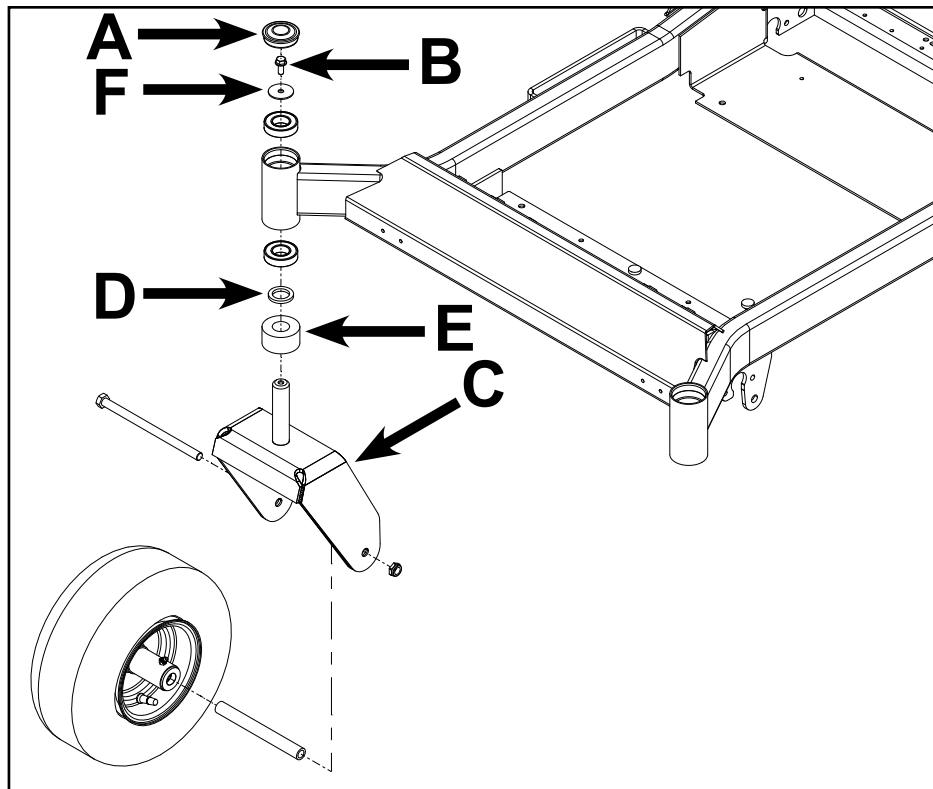

Fig. 008
2. Install spacer (E) and thrust washer (D) onto the caster fork shaft.
4. Install washer (F).
5. Install fastener (B) and torque to specification -17 ft-lbs. (23 Nm).
6. Install the dust cap (A) until fully seated.
7. Safely lower unit and verify proper function (Fig. 008).